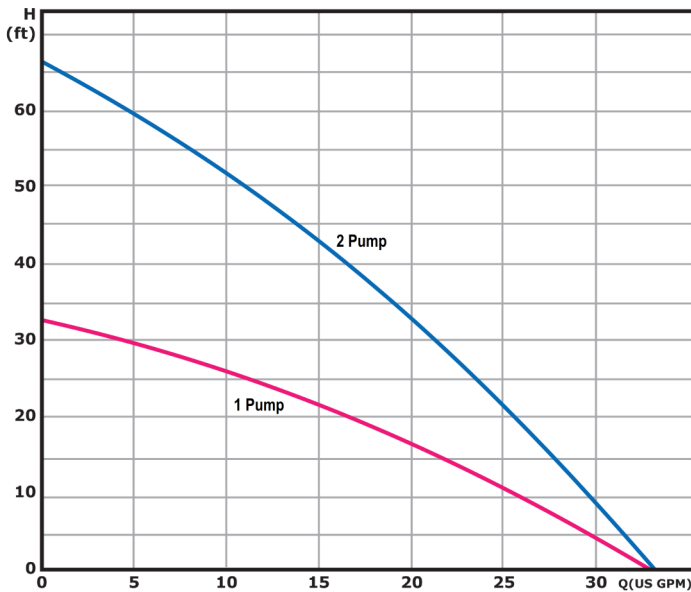

Fig. 1. Low Head Pump Center Flow Chart
The QT-EA® has two separate pumping circuits designed to work with two heat pumps or a large dual stage heat pump with two circuits. Each pumping circuit shall be checked with the performance curves (**See Fig. 1 & 2**). To ensure adequate flow, the selection must be based on your specific system design. Total system flow shall be no greater than 28 GPM.
1. By using the flow meter tool, monitor the flow (GPM) being pumped through the entire system. If the flow is not correct, check that the proper flow center has been selected for the application using pump curves (**See Fig. 1, 2**). If the pump curve indicates the proper flow center was installed and the GPM is less than the system requires, an obstruction in the system is restricting flow.